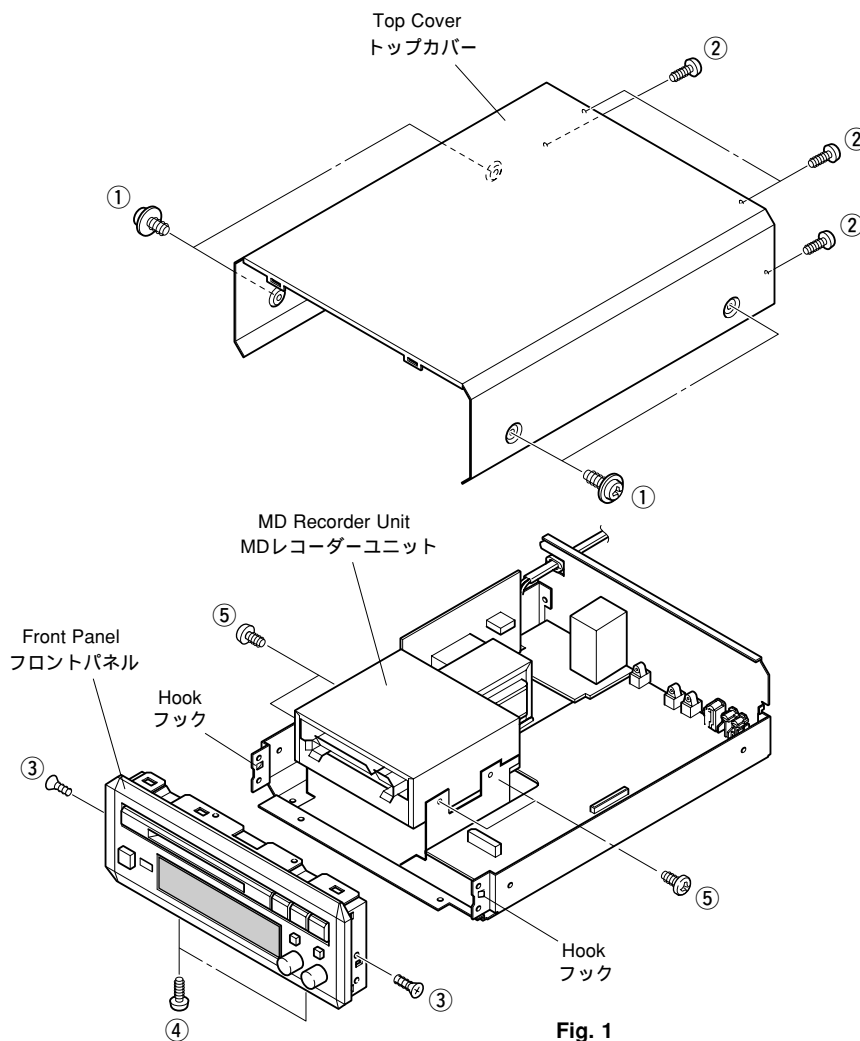

Fig. 1
Remove 4 screws ( ① ) and 4 screw ( ② ) in Fig. 1.
①のネジ4本と②のネジ4本を外します。( Fig. 1 )
b. Remove 2 screws ( ③ ) and 2 screws ( ④ ) in Fig. 1.
b. ③のネジ2本と④のネジ2本を外します。( Fig. 1 )
c. Detach the 2 hooks in Fig. 1 and then pull the Front Panel forward.
b. Remove 4 screws ( ⑤ ) in Fig. 1.
b. ⑤のネジ4本を外します。( Fig. 1 )